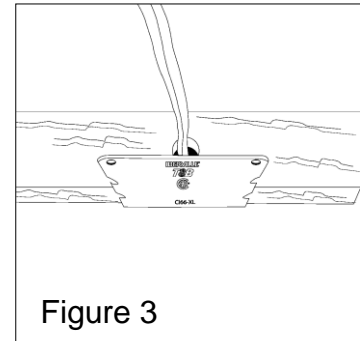

Figure 3
2. Installation of the protector plate on a floor plate (simple or double) or on a stud of an adjacent wall, can be done by using the nailing prongs (Figure 3).